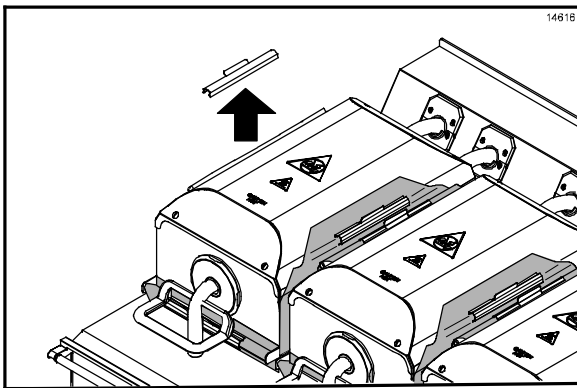

Figure 80
8. Remove the release sheet locking clips, bars, and release sheets. Take the clips and bars to the 3-compartment sink to be washed and rinsed. If necessary, soak them in a hot solution of **SolidSense APSC** to remove carbon accumulation. (See Figure 80.)